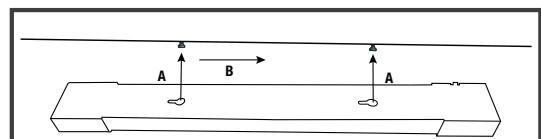

Figure 2
Step 1: Locate Mounting Holes: Measure distance between keyhole slots at the narrow position and with a pencil mark the spot where the screws will be located. The screw hole location must be exact for the fixture to mount properly. See Figure 2.
Step 3: Attach Fixture: Attach fixture to screws by aligning keyhole slots underneath fixture and push onto screws (Figure 2 A). Slide fixture to narrow part of keyhole slots (Figure 2 B). Keep adjusting screw depth slightly until fixture is snug onto mounting surface.